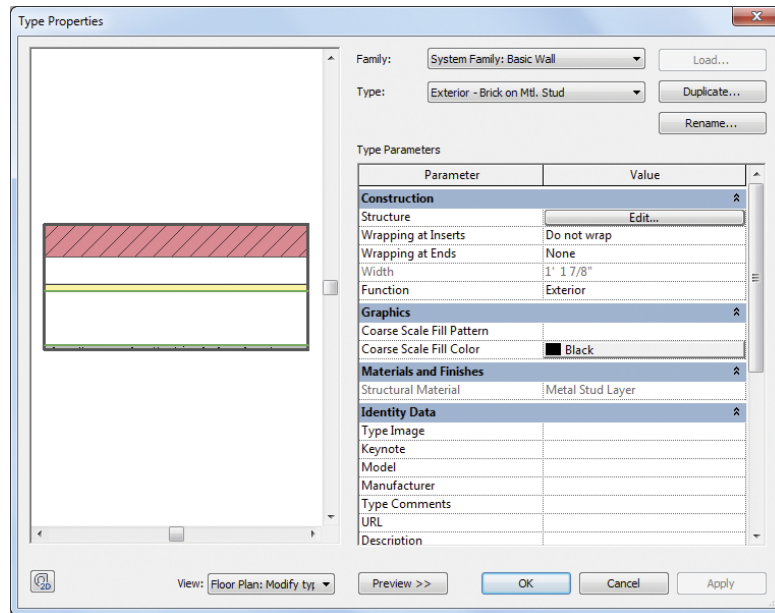

FIGURE 2.2 Compound walls consist of several layers of functional materials.
2. Select the wall type Exterior - Brick On Mtl. Stud, and you'll see the difference (Figure 2.2).